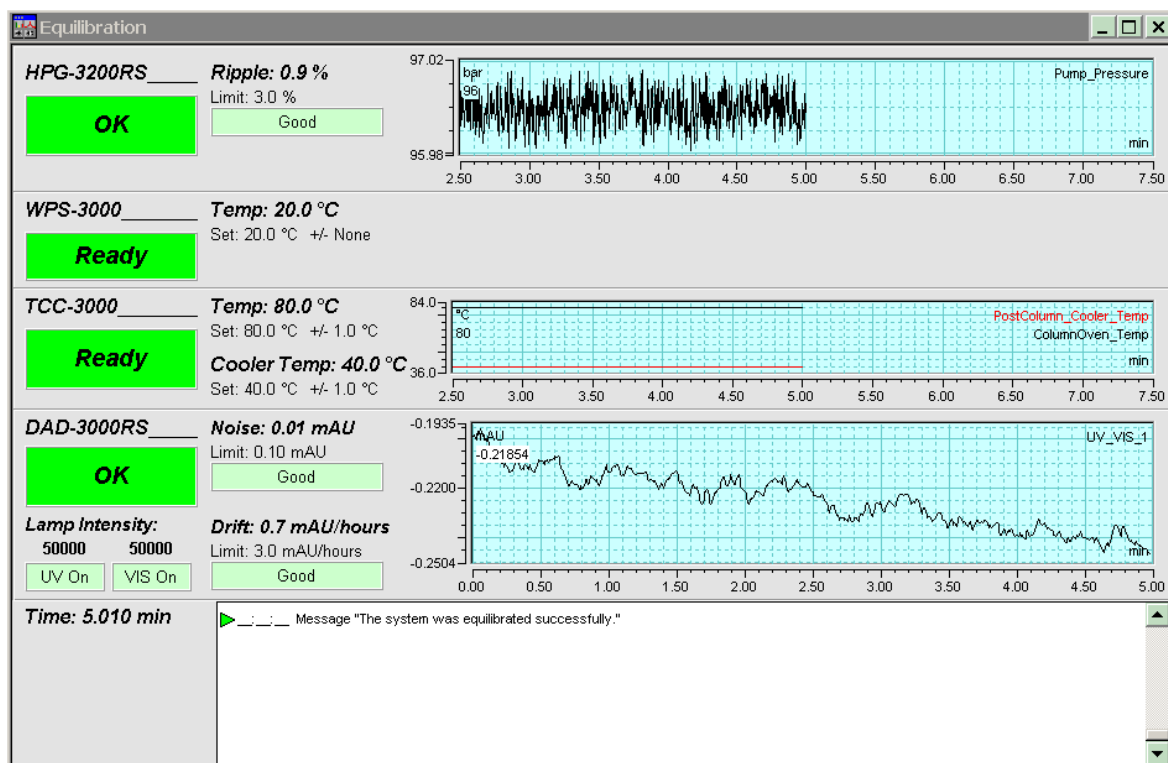

Fig. 23: Equilibration panel
- ◆ Opens the equilibration control panel for the instruments in the timebase (→ Fig. 23, page 70).